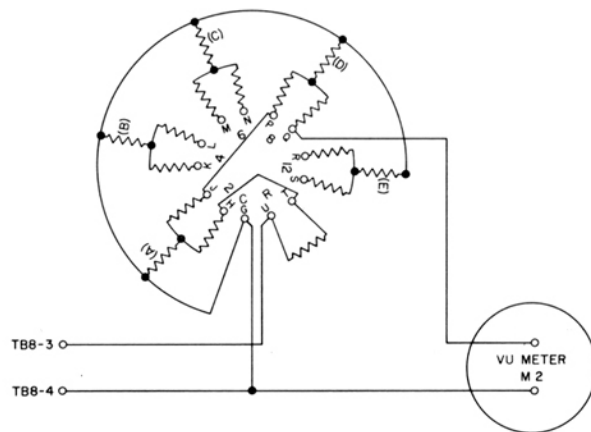

Fig. 3 Meter Attenuator Connection Diagram (M-7477541-P4, Rev. 8)
h. Mount the VU Meter Attenuator at some convenient point and connect the Attenuator as shown on the Meter Attenuator Connection Diagram, Fig. 3.